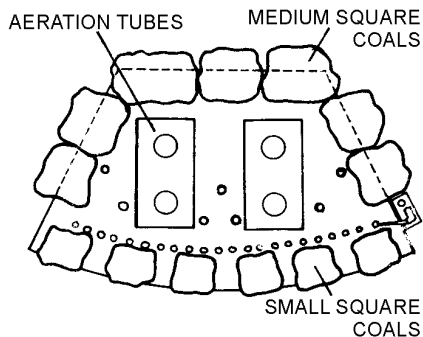
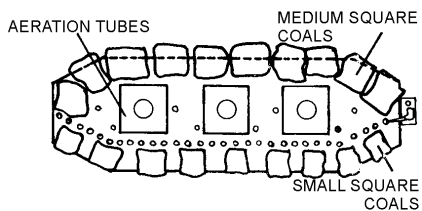
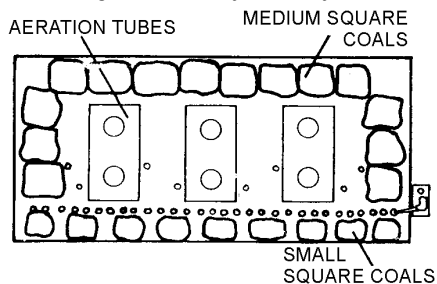

Figure 21 – Bowed Tray - Coals Layer 1
Figure 23 - Oval Tray - Coals Layer 1
Figure 25 - Rectangular Tray - Coals Layer 1
1. With reference to **Figure 21, Figure 23** or **Figure 25** unpack the **small square coals** and place them along/around the burner tray leaving equal spaces between them, taking care not to cover any gas ports.